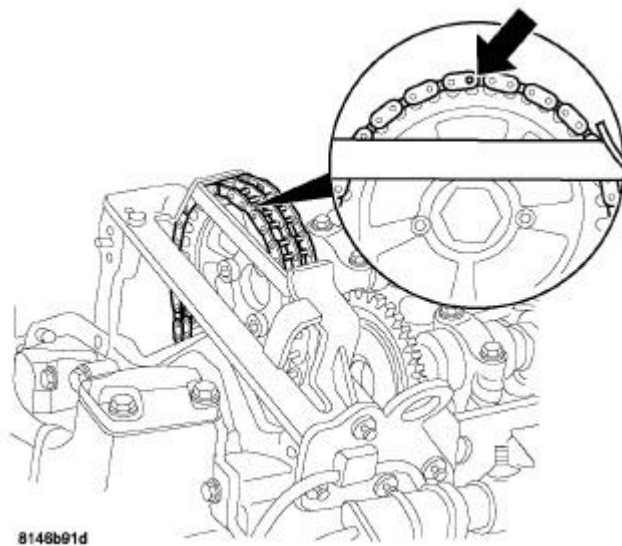

Fig. 288: PIN POSITION
6. Attach timing chain retainer 8931 (1) to cylinder head with bolts supplied. See Fig. 288.
NOTE: When fitting the thrust spindle, ensure that the thrust pin is positioned at the left timing chain pin of a chain link. See Fig. 288 .